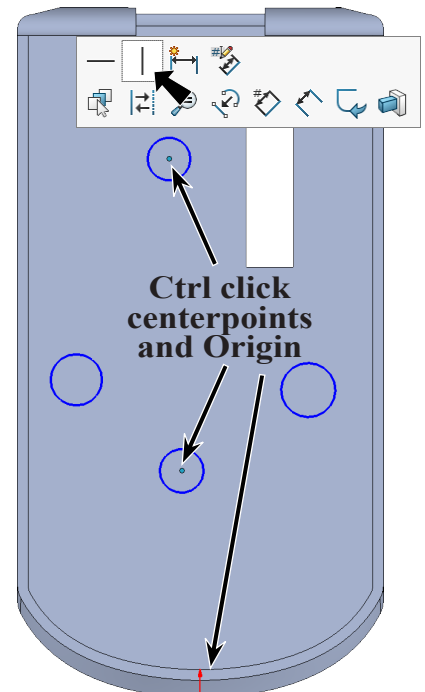

Fig. 46
Step 6. **Ctrl click centerpoint of two circles and Origin**  to select the three. Release Ctrl key and click **Make Vertical**  on the context toolbar, **Fig. 46**.